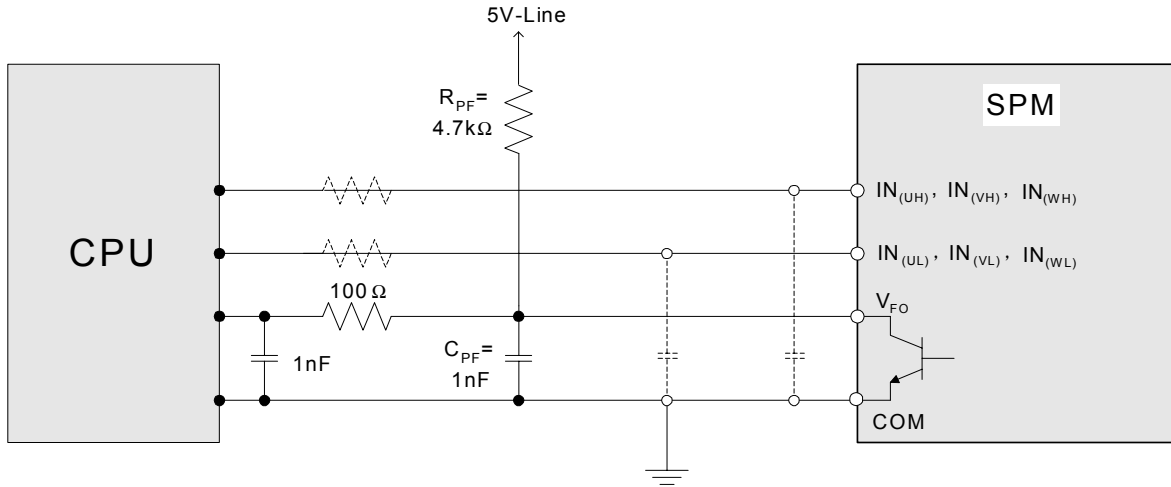

Figure 6.1 Recommended CPU I/O Interface Circuit
Figure 6.1 shows the I/O interface circuit between the CPU and Motion-SPM in Mini-DIP. Because the Motion-SPM
capacitors be placed at both the CPU and Motion-SPM ends of the  $V_{FO}$ , signal line as close as possible to each device. The RC coupling at each input (parts shown dotted in Figure 6.1) might change depending on the PWM control scheme used in the application and the wiring impedance of the application's PCB layout.
attention should be given to the signal voltage drop at the Motion-SPM input terminals to satisfy the turn-on threshold voltage requirement. For instance,  $R = 100\Omega$  and  $C = 1nF$  for the parts shown dotted in Figure 6.1.
3.  $V_{FO}$  output is an open collector output. This signal line should be pulled up to the positive side of the 5V logic power supply with approximately 4.7kΩ resistance. (reference Figure 6.1)